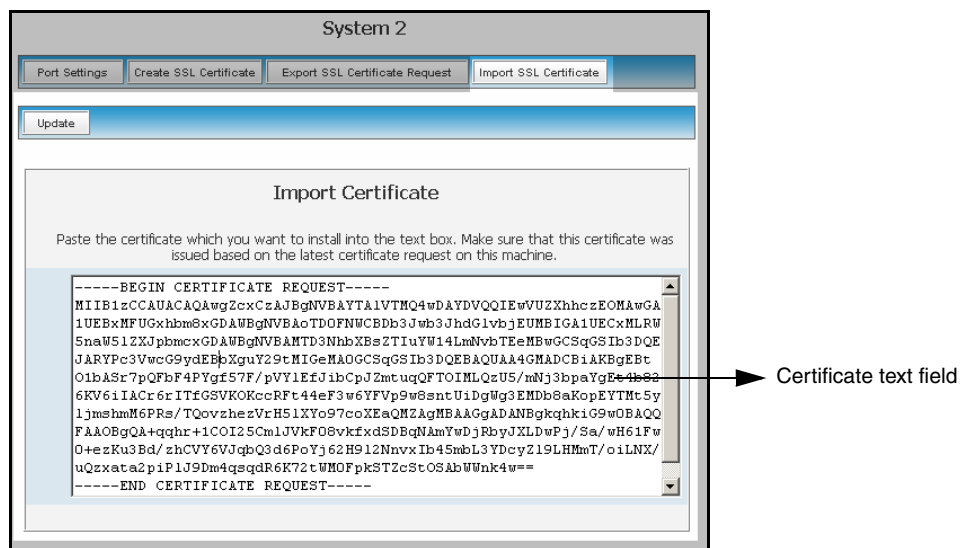

FIG. 51 Import SSL Certificate dialog
- Navigate to the Server Certificate page by clicking **System Settings > Manage System > Server > Import SSL Certificate** to open the Import Certificate page (FIG. 51).